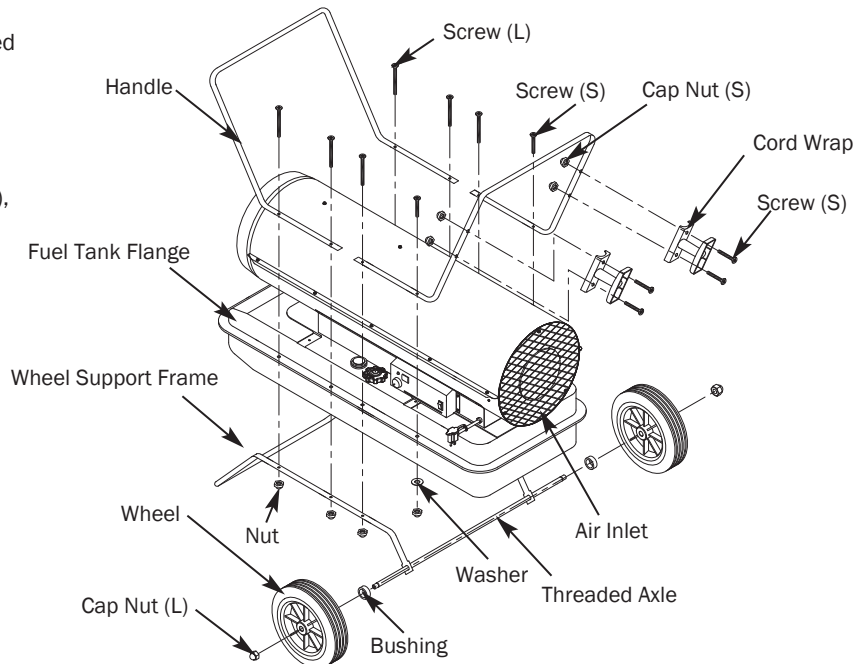

Figure 4 – Wheel and Handle Assembly
4. Place heater on wheel support frame. Make sure air inlet end (rear) of heater is over wheels. Align the hole on fuel tank flange. Insert screws (L) through handles (front and Rear), fuel tank flange, and wheel support frame. Insert screws (S) through rear handle, fuel tank flange, and washer (S) as shown in figure 4 and attach nut finger tight after each screw is inserted.
7. Insert screws through cord wrap, rear handle as shown in Figure 4 and attach nut finger tight after each screw is inserted.